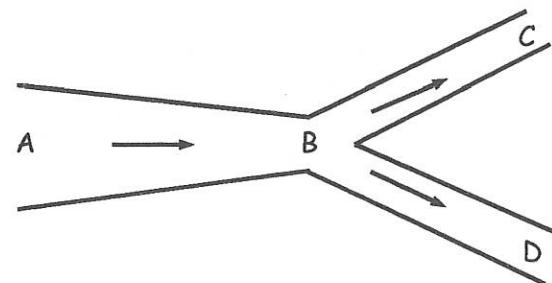

Figure Q3(a)
- a) Water flows through a pipe AB as shown on Figure Q3(a), with a diameter of 40cm at A and 25cm at B. At B the pipe is split into two which the diameter BC and BD are both 15 cm and 10 cm. Calculate: